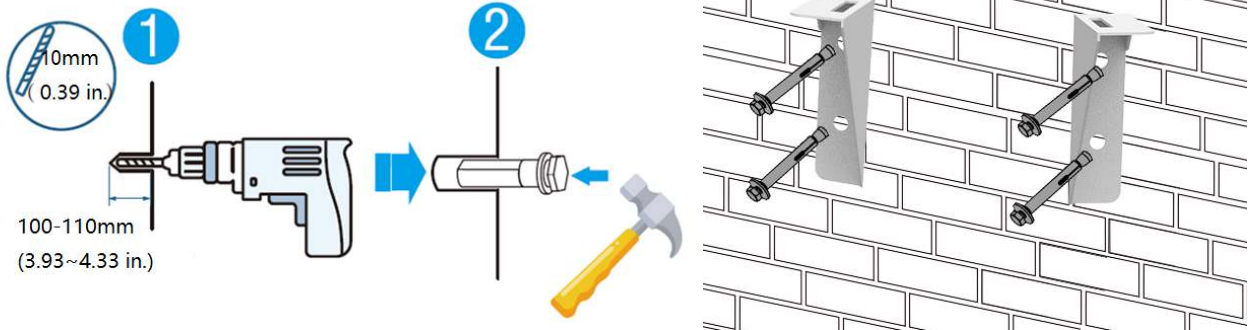

Figure 4-3
- b) Choose the recommend drill head (as shown in Figure 4-3) to drill 4 holes on the wall, 100mm-110mm deep.
- c) Use a hammer to secure the support to the wall, and install the expansion bolt in the hole, as shown in Figure 4-3.